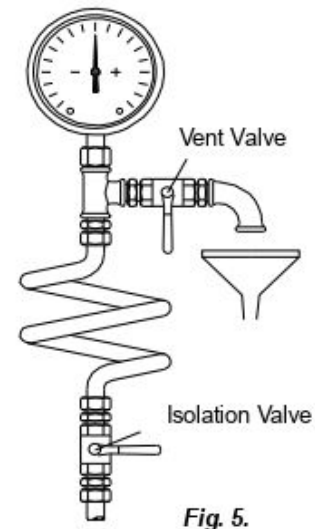

Fig. 5.
- Pressure and vacuum gauges must be properly anchored and connected at the measuring points located on the pump flanges or on the pipes close to the flanges approximately 8 mm diameter tubing with pig tail configuration to lessen pressure fluctuation. For safety purposes isolating and vent valves should be fitted before the gauges (**Fig. 5**).